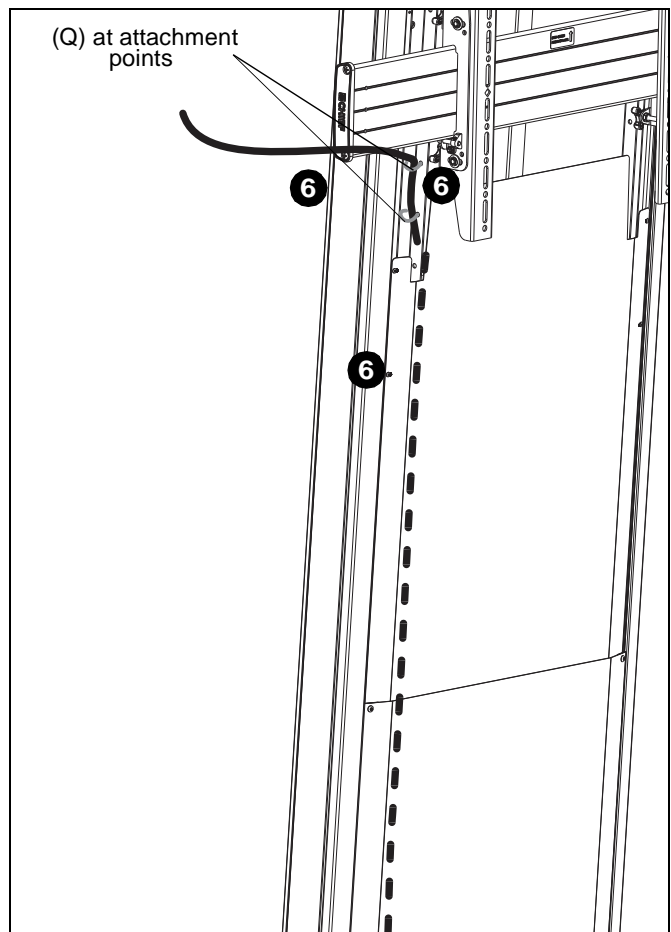

Figure 20
6. Route cables from display through inside of column assembly attaching at cable management attachment points and/or accessory bracket using cable ties (Q) as desired. (See Figure 20)